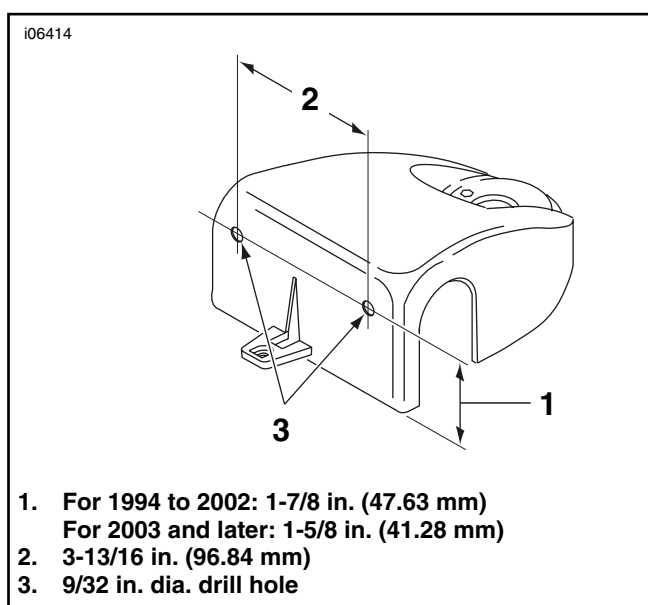

Figure 2. Nacelle Components and Hole Locations
1. See Figure 2. Cover the front of the handlebar cover with transparent or masking tape.